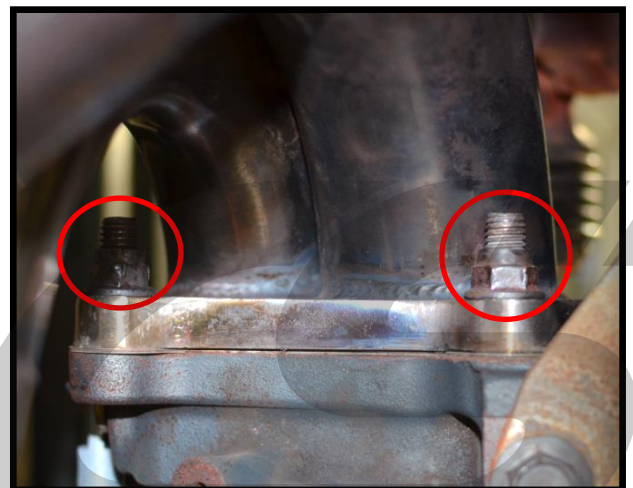

Figure 6e
- f) Remove the lower remaining two 14mm nuts from the downpipe, **circled in red in Figure 6e.**